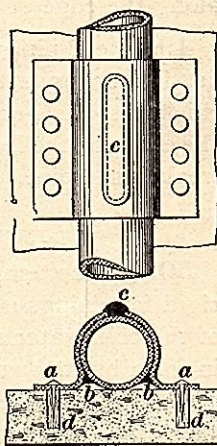

FIG. 32
**46.** Pipes over 2 inches in diameter are best supported by means of broad **bands**, such as are shown in Fig. 32, which are attached at intervals of about 3 or 4 feet. The width of the bands, along the line of the pipes, measured for pipes of 2, 3, or 4 inches diameter, should be about 6, 8, or 10 inches, respectively. An oblong hole *c* is cut in the front